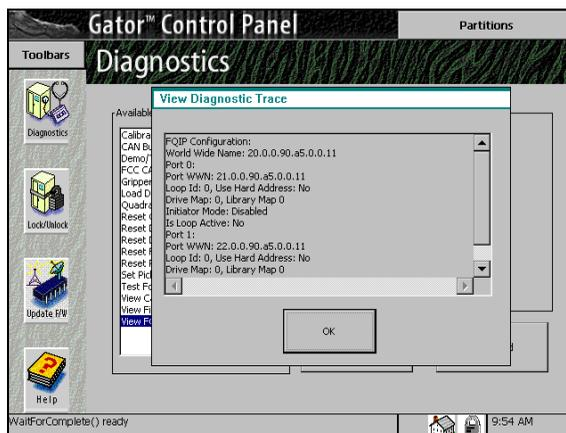

Figure 9-13 F-QIP configuration.
- Use the +/- buttons to select **View F-QIP Configuration** and tap **Run Test**. This brings up the View Diagnostic Trace window, showing the F-QIP configurations (Figure 9-13).